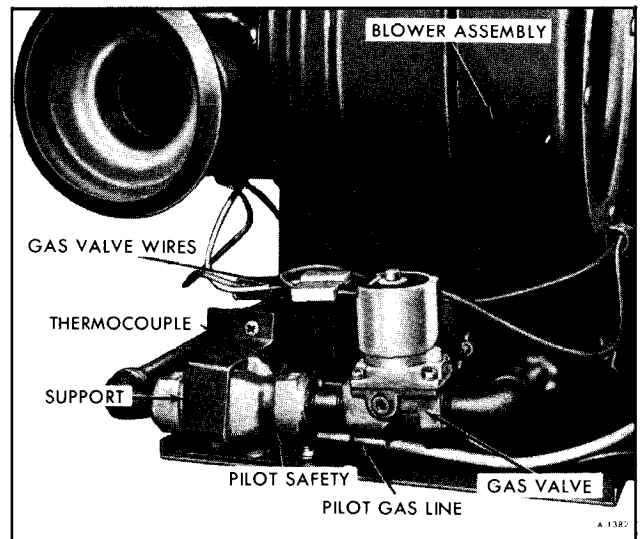
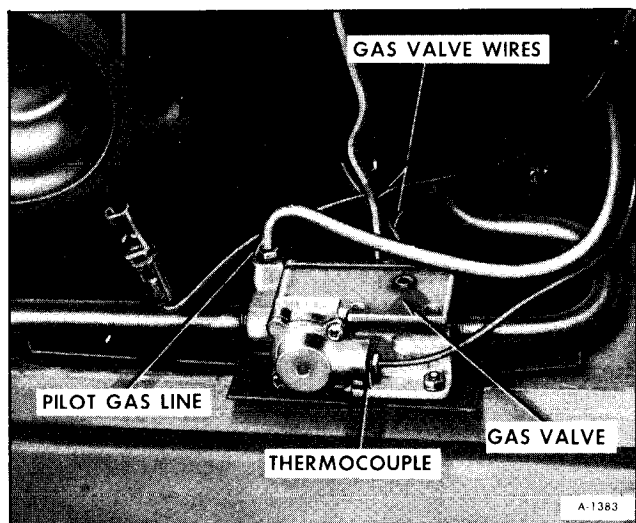

Figure 14—(NT-22G) Gas and Pilot Safety Valve
Figure 15-(NT-32G) Gas Valve
NOTE: The NT-22G TYPE I has its gas valve and pilot safety as two separate valves (See figure 14), whereas the NT-32G TYPE I has both these valves incorporated into one (See figure 15). But, the gas valve (and pilot safety) replacement procedures are similar for both the NT-22G TYPE I and the NT-32G TYPE I.
2. Disconnect pilot gas line, thermocouple and wires from valve(s) (See figures 14 and 15).
6. Connect pilot gas line, thermocouple, and wires at valve(s) (figures 14 and 15).